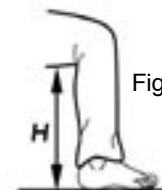

Figure 2
- To determine the user's ideal sitting height ("H"), measure the height between the user's foot (without shoe) and back knee (see figure 2). See product options on page 8.